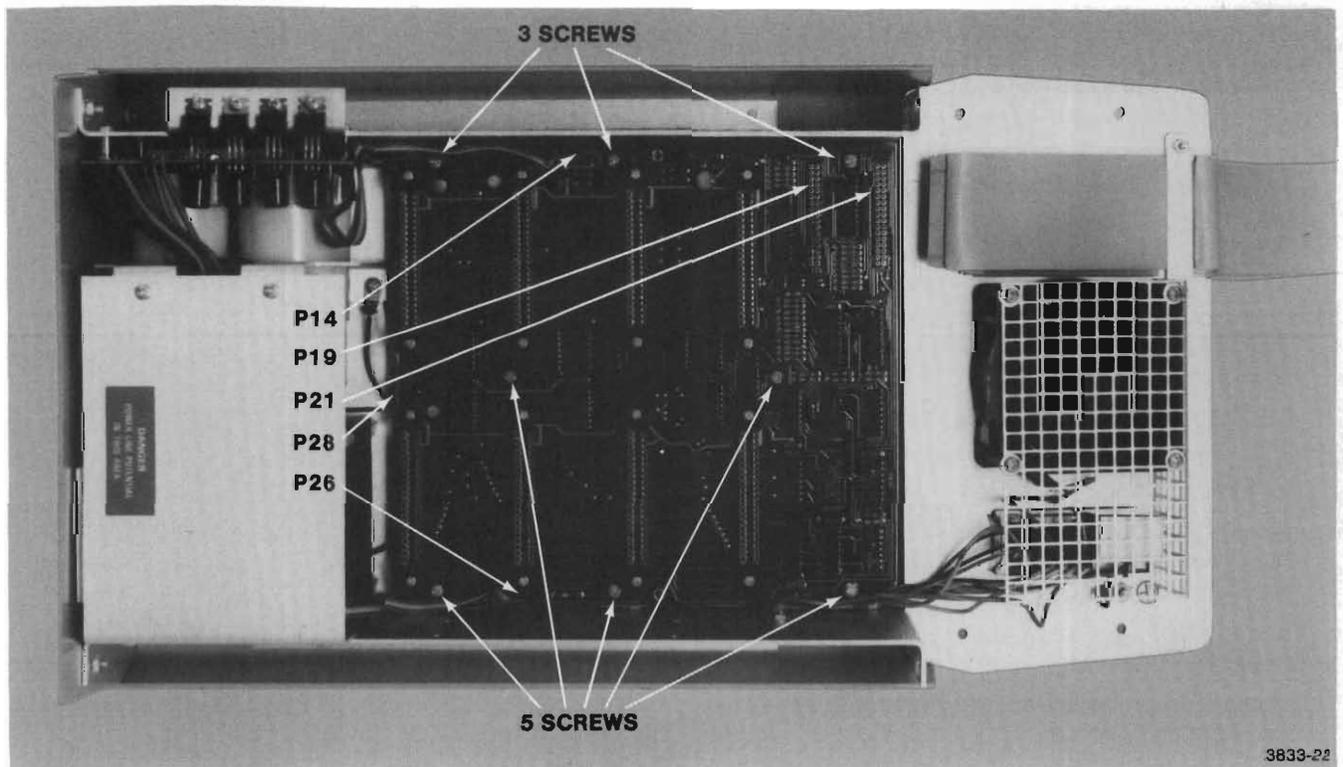

Figure 4-8. Replacing the Control Board.
4. Disconnect P14, P19, P21, P26, and P28 from the Control board (Figure 4-8).